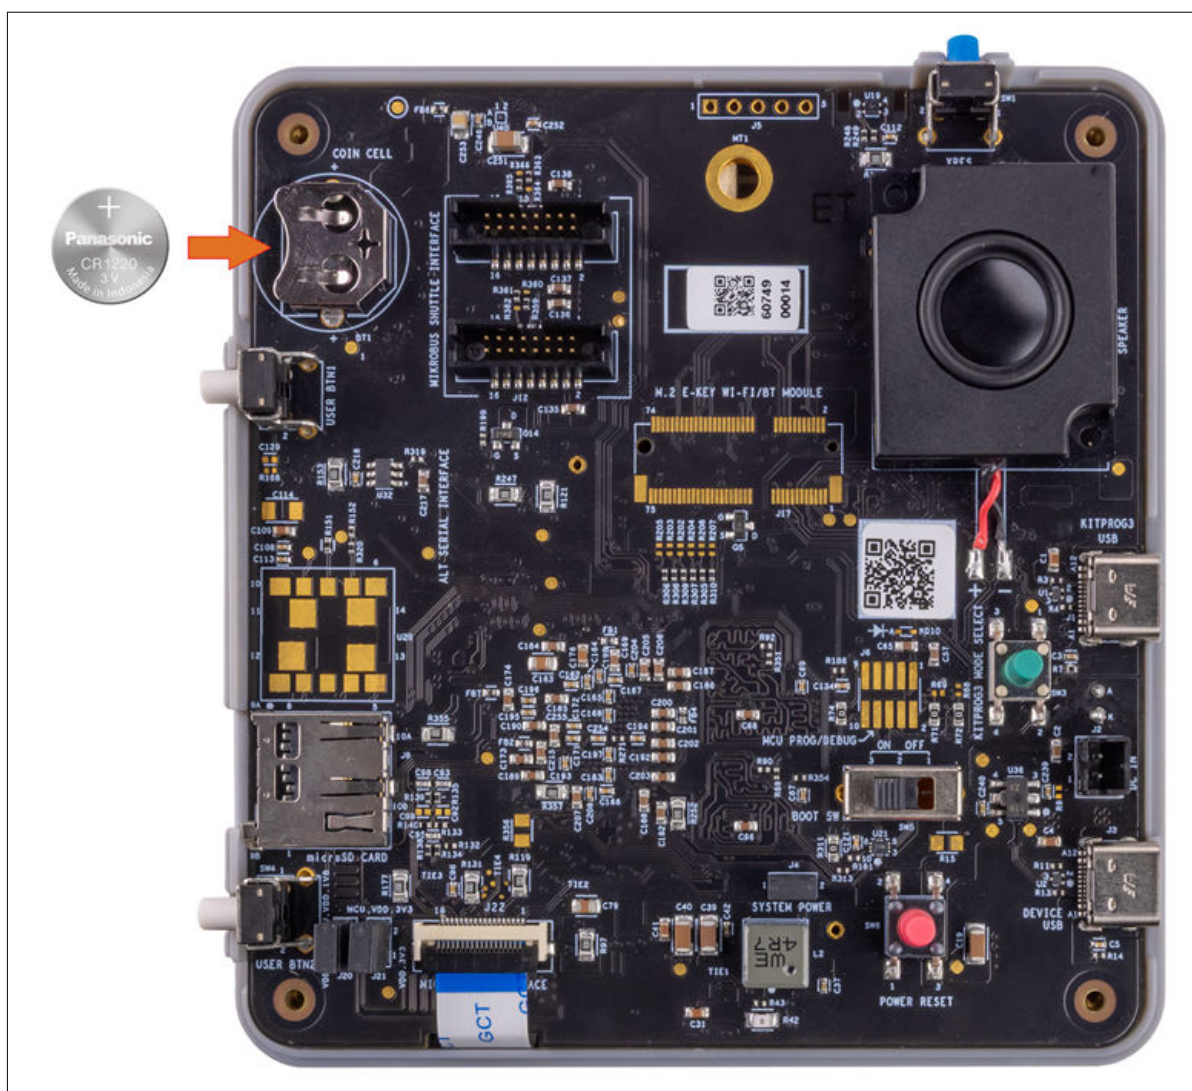

Figure 99 **Insert the coin cell**
2. Insert the coin cell into the connector **BT1** as shown in Figure 99. Recommended coin cell MPN: **CR1220** (Panasonic). Then, attach the back cover again by using the 4 screws